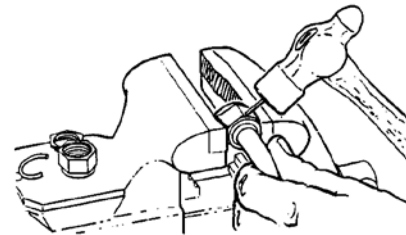

Figure 10 - Installation of Nut And Retaining Wire
- c. Install new nut and drive in new retaining wire (Figure 10).
- (3) Backed-out wires on wired-on nuts may be driven back into place and set with a punch (Figures 10 and 11).